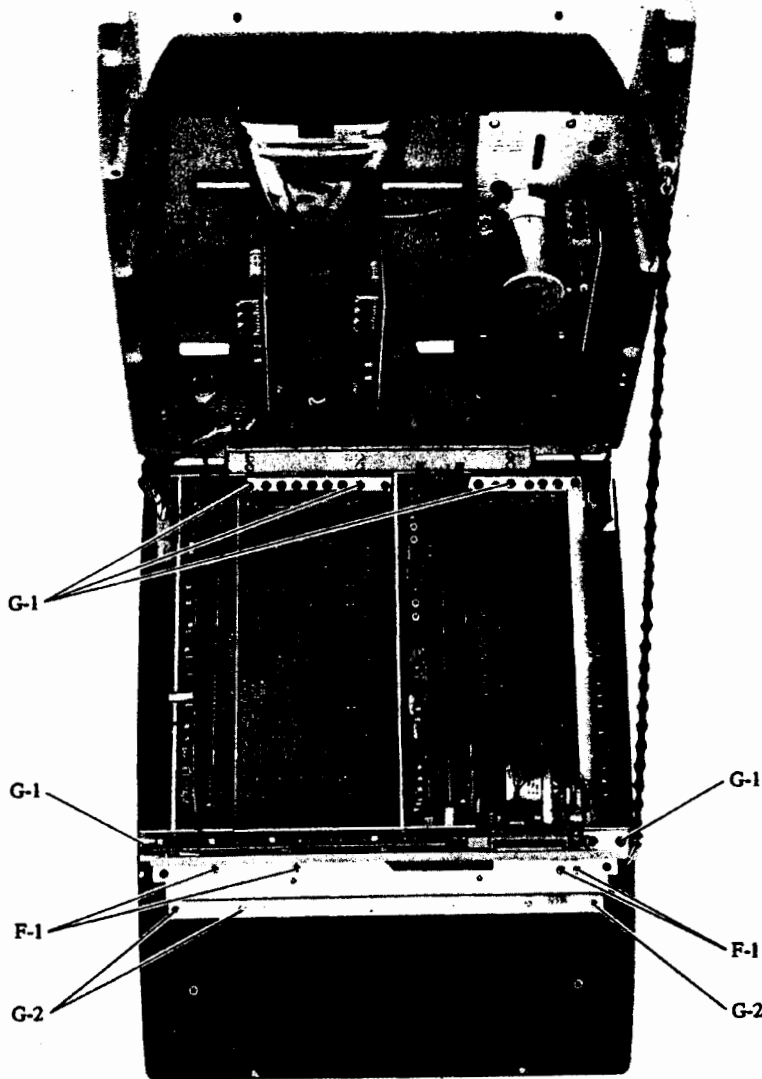

Figure 6. A5 and A40 Assembly Mounting Screws
7. Remove the screws (4) holding the cardreader (F in fig. 6), and lift the cardreader out.